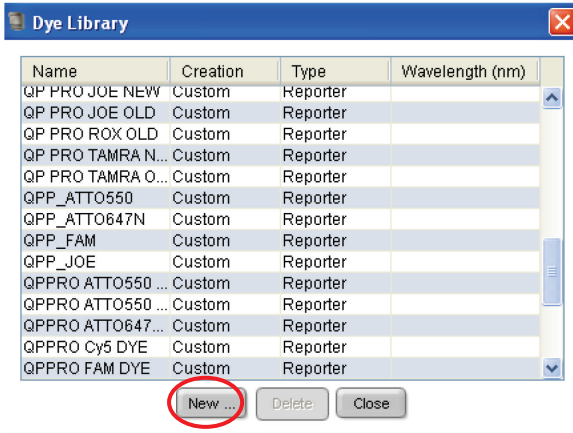

Figure 5. Selecting new dye calibration from the Dye Library.
15. In the **Dye Library** window click **New** (Figure 5).